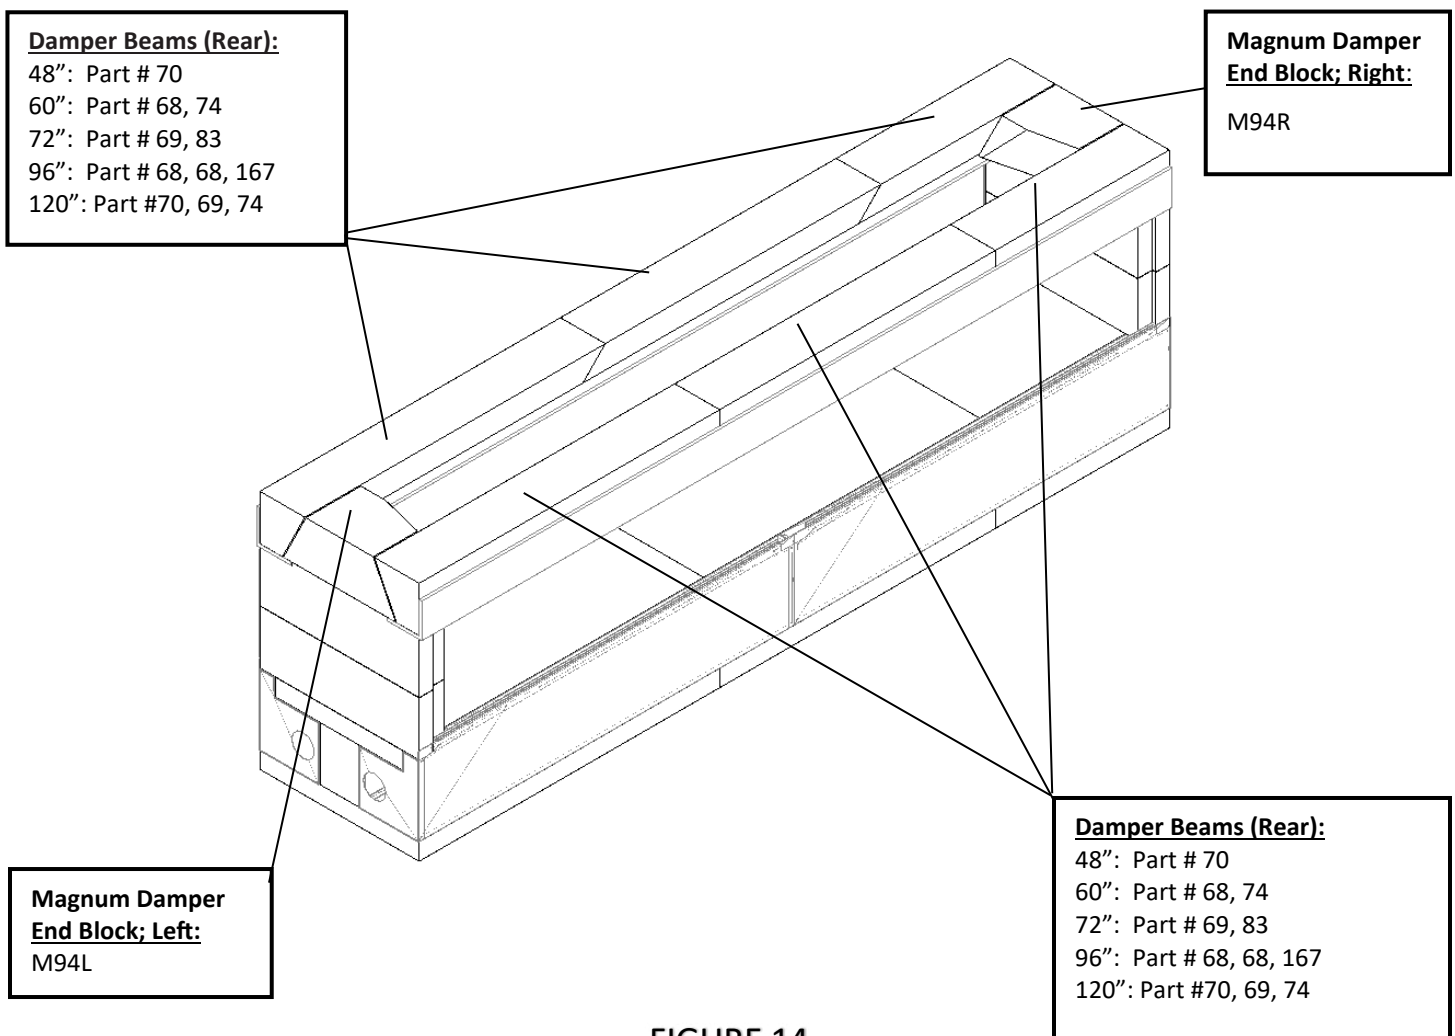

FIGURE 14
- 8) The fireplaces come with an 8"- thick damper beam assembly, a component group that is to be assembled on top of the firebox side walls and steel angle iron (no steel angle iron in 48" model). The damper beam assembly consists of long lintel pieces and two (2) short damper end blocks. The lintels will be equal to the width of the fireplace model that they serve. These components both sit on their narrow base so that their beveled face points down and into the firebox interior (**Figure 14**).
The damper end blocks are designed to sit on the firebox side wall between the front lintel and the back lintel. Each of the damper end blocks are designed for a specific side of the unit. When properly set, the damper end block fits flush with the outside face of the firebox side wall. (**Figure 14**).